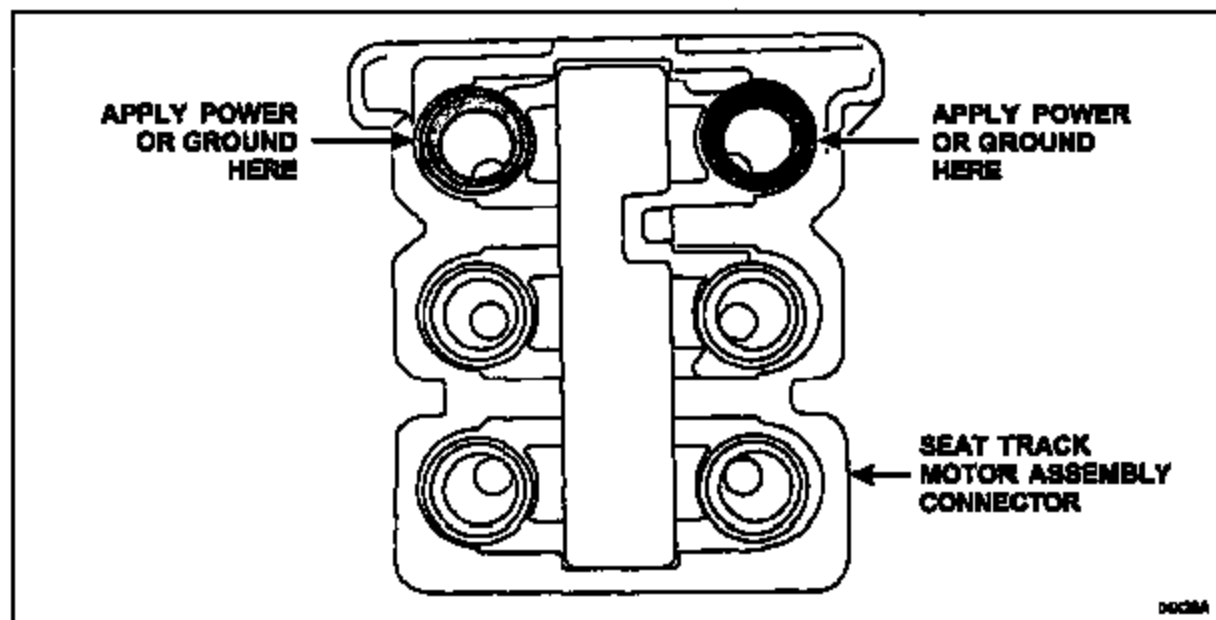

FIGURE 1
2. To change the seat track horizontal position, apply power and ground to the pins shown. See Figure 1.